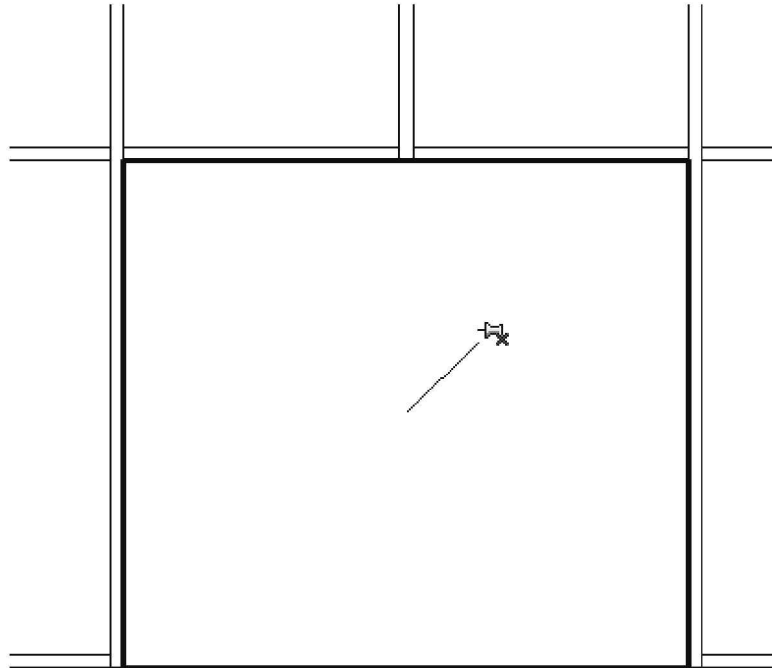

FIGURE 10-3.10 Curtain panel selected and un-pinned
22. Hover your cursor over the perimeter of the *Curtain Panel* and “tap” the **Tab** key, without moving the cursor, until the *Curtain Panel* highlights as in Figure 10-3.10.